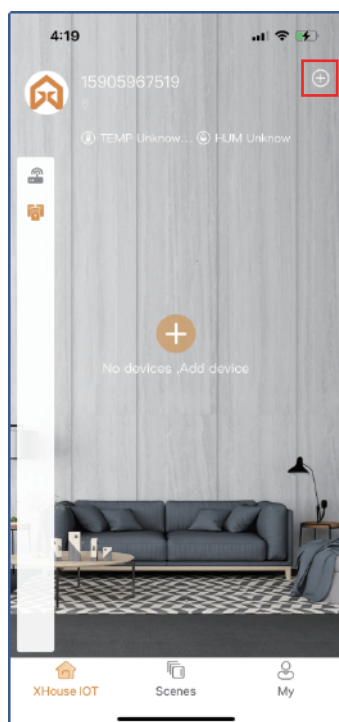

Fig 1
Step 1. Power on the device, open the APP. Press the “⊕” on the top right corner to add the device, then select the “Sliding Gate” which has a orange cycle on the top right corner. (Fig 1 and 2)